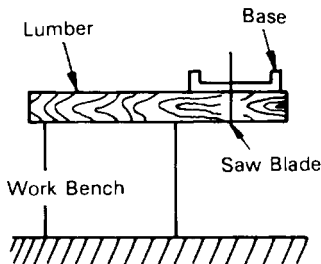

Fig. 5
4. Prepare a wooden work bench (Fig. 5)